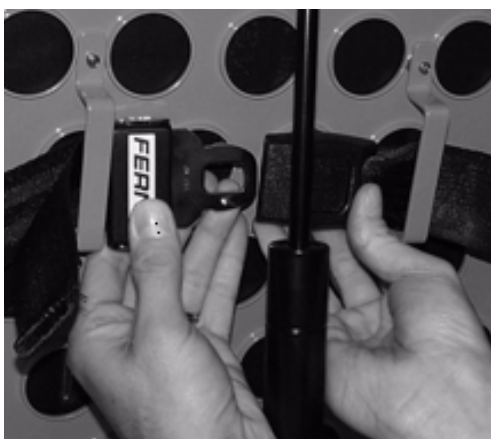

Figure 24 - Fastening the Pedi-Mate® Buckle
4. Wrap the black backrest straps around the backrest and insert the ends of the straps through the brackets. Securely fasten the buckle (see Figure 24).